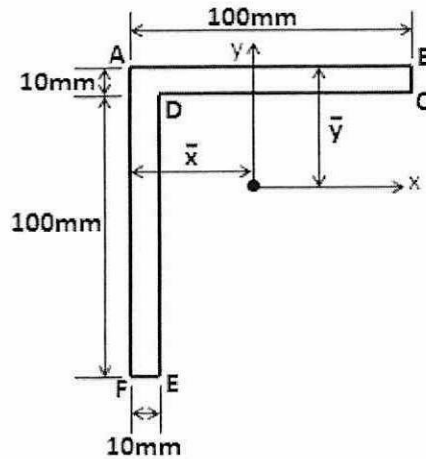

Figure Q1.1
- (b) **Figure Q1.1** shows the cross section of a wing's stringer is subjected to a bending moment of -2000 Nm , acting in the vertical plane.